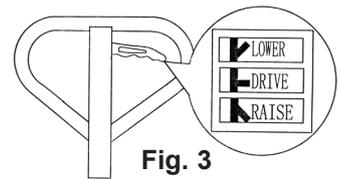

Fig. 3
4.1 The operating handle control lever (1) can be set to one of three positions, as shown in Fig. 3. Positions are: